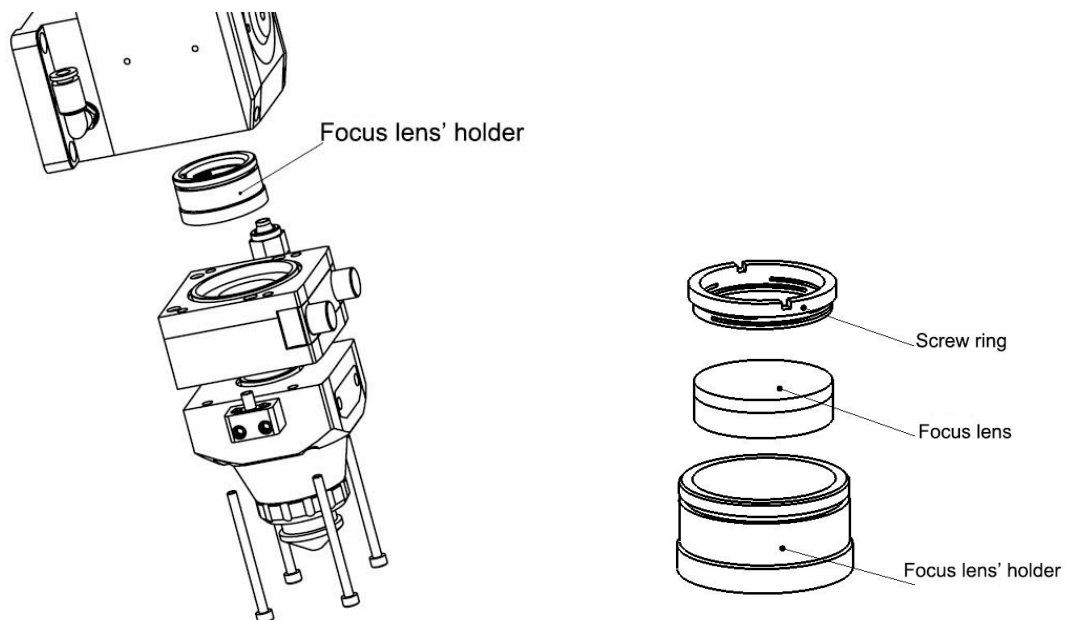

Figure 14. Focus lens with lens' holder.
(1) Disassembly the cutting head and clean up all the dust on the surface of the head in a clean place;
(2) Loosen all the screws of the focus lens unit showed in figure 14 by hexagonal screw driver in 4mm, and kindly suggest you use **masking tape** to cover the part connecting with focus lens for preventing dust coming inside;
(3) Take out of the focus lens with lens' holder by optics resemble tools and then take out of the screw ring and focus lens by the same tool;
(4) Clean or change the focus lens;